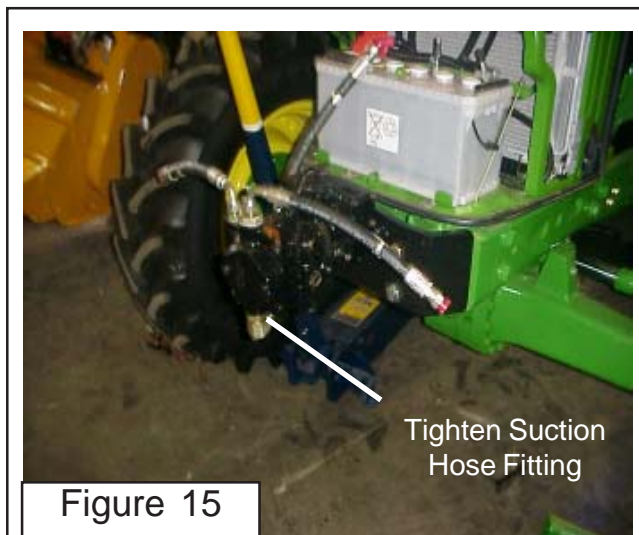

Figure 15
- B. Screw the large jam nut onto the cable past the threads until the jam nut slides down the cable (See Figure 15).
- C. Slide the retaining ring (2 screw retaining ring) on over the threaded cable housing (See Figure 15).